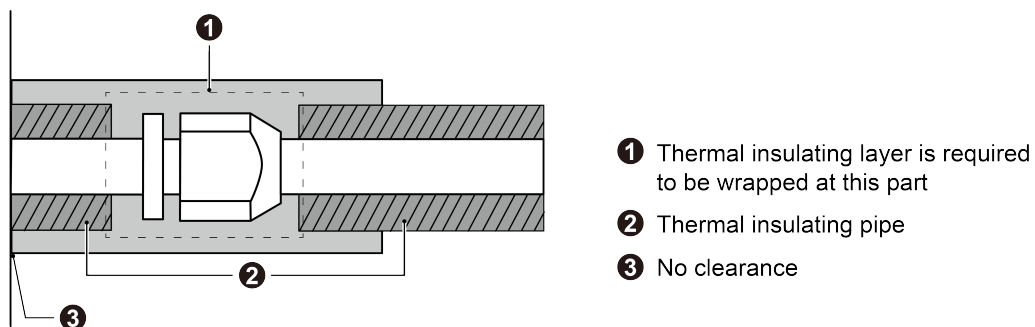

Fig.4.4.10
- 2) Joints of indoor and outdoor unit should be wrapped with insulating material and leave no gap between pipe and wall. See Fig.4.4.10.